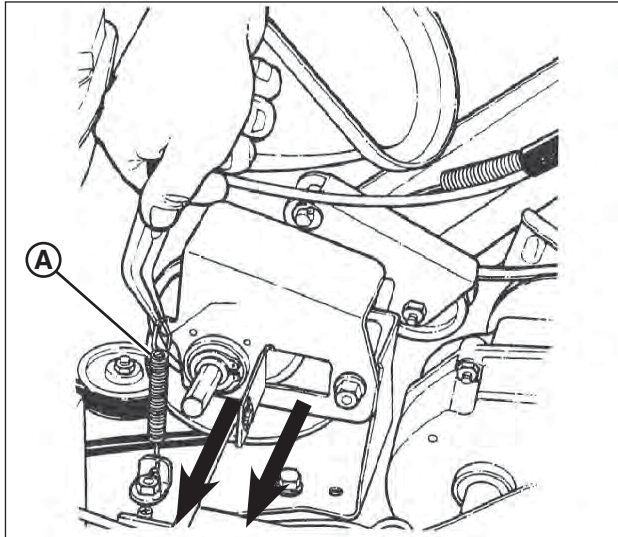

Figure 30: Removing the driven disc assembly
2. Using needle nose pliers, unhook the drive spring (A, Figure 30) and slide the driven disc assembly off the hex shaft.